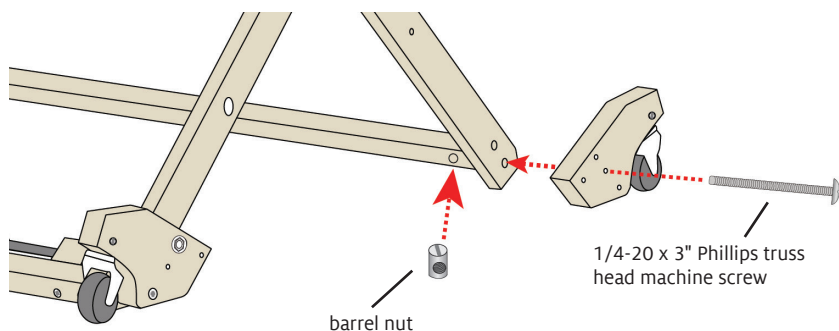

FIGURE 10: ATTACH REAR STROLLER BLOCK TO REAR LEG BRACE
11. Insert a 1/4-20 x 3" Phillips truss head machine screw through the middle hole of the stroller block, then partway through the leg (Figure 10). Insert the barrel nut from step 9 into the rear leg brace, holding it in place with a slotted (flat) screwdriver. Fully tighten the screw into the barrel nut.
26. Insert a 1/4-20 x 4" Phillips truss head machine screw through the bottom hole of the stroller block, then partway through the leg (Figure 10). Insert the barrel nut from step 9 into the rear leg brace, holding it in place with a slotted (flat) screwdriver. Fully tighten the screw into the barrel nut.